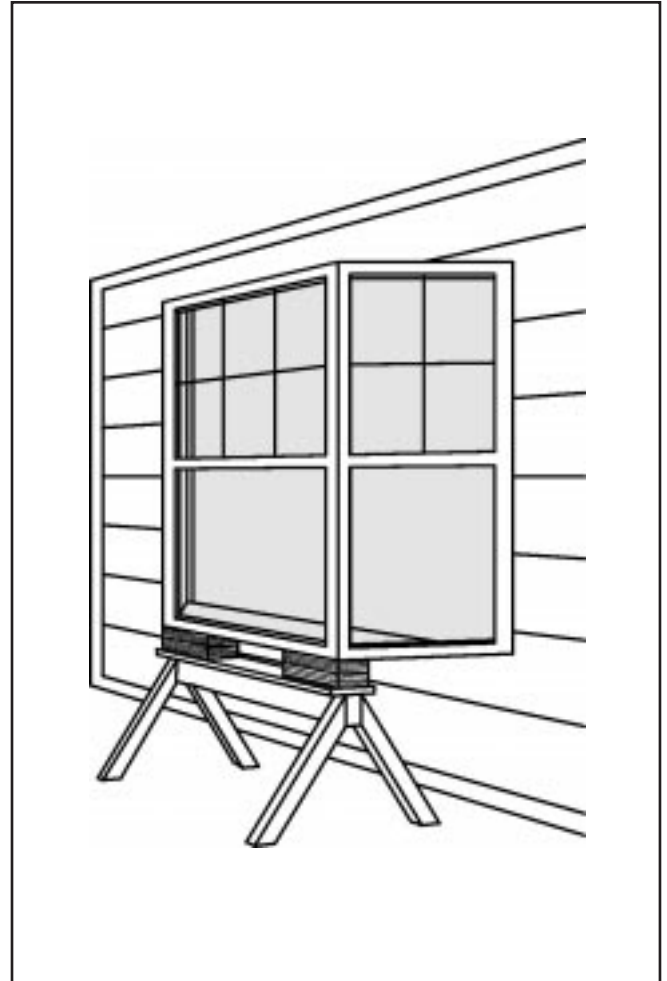

Figure 17-6 Bay Window with Temporary Support
5. If a bottom support structure is not present, use temporary braces or a saw horse under the outer edge of the projection to stabilize the unit. It must hold the unit in a plumb position until it is fully secured (see Figure 17-6).